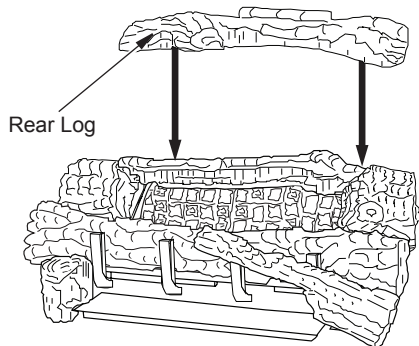

Figure 34 - Installing Rear Log
8. Rest rear log in back corner sections of chassis assembly as shown in Figure 34.